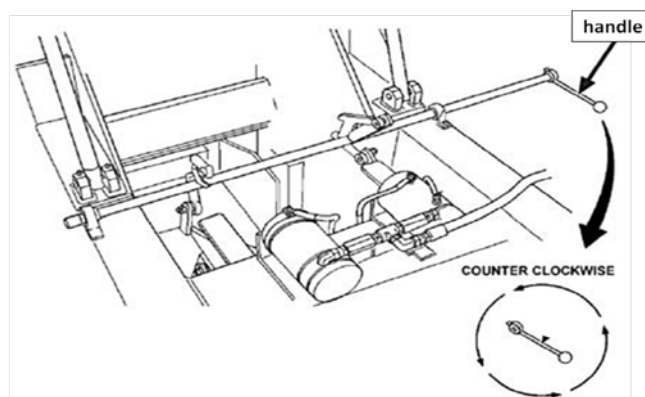

Figure 4 – Transport Legs
- Rotate the handle counter-clockwise to raise and lock the legs in the stowed position. Secure with the small bungee. (figure 4)